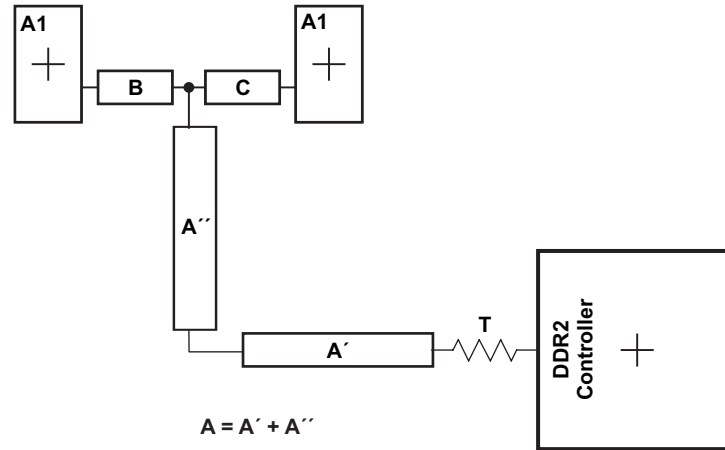

Figure 8-54. CK and ADDR_CTRL Routing and Topology
Figure 8-54 shows the topology of the routing for the CK and ADDR_CTRL net classes. The route is a balanced T as it is intended that the length of segments B and C be equal. In addition, the length of A ($A'+A''$) should be maximized.
(1) The length of segment A = $A' + A''$ as shown in Figure 8-54.
(2) Series terminator, if used, should be located closest to the device.
(3) Center-to-center spacing is allowed to fall to minimum (2w) for up to 500 mils of routed length to accommodate BGA escape and routing congestion.
(4) CACLM is the longest Manhattan distance of the CK and ADDR_CTRL net classes.